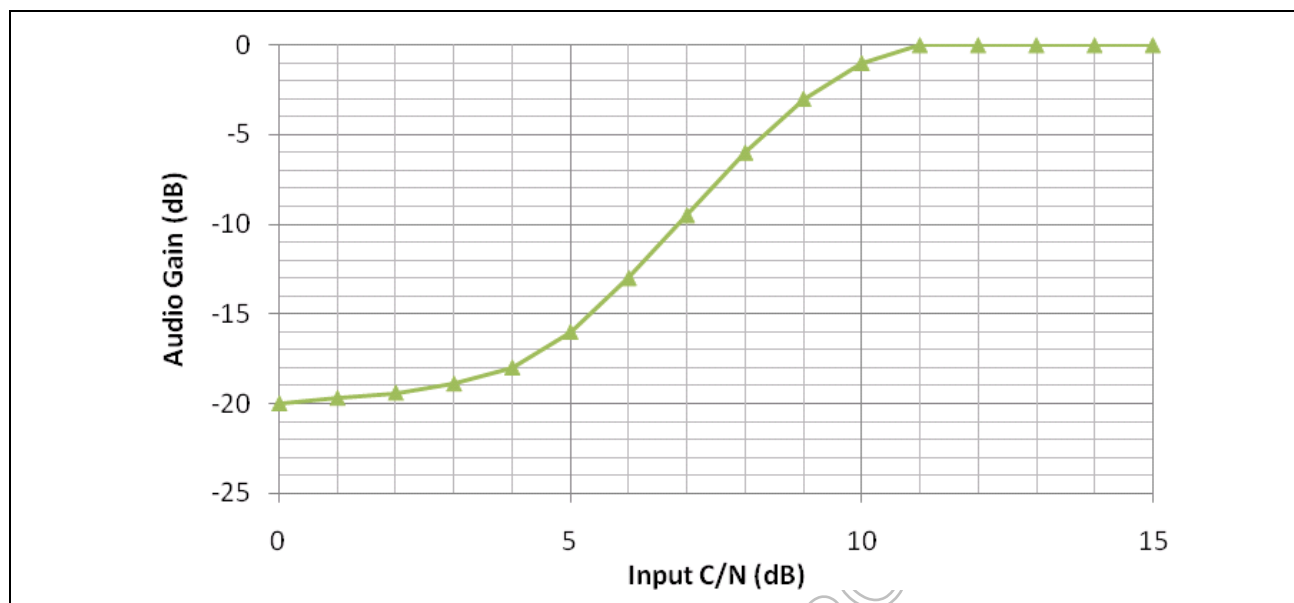

Figure 23: Example Soft Mute Characteristic
- **Soft Mute** — Improves the user experience by dynamically muting the output audio proportionate to the FM signal C/N. This prevents the user from being assaulted with a blast of static. The mute characteristic is fully programmable to accommodate fine tuning of the output signal level. An example mute characteristic is shown in Figure 23.